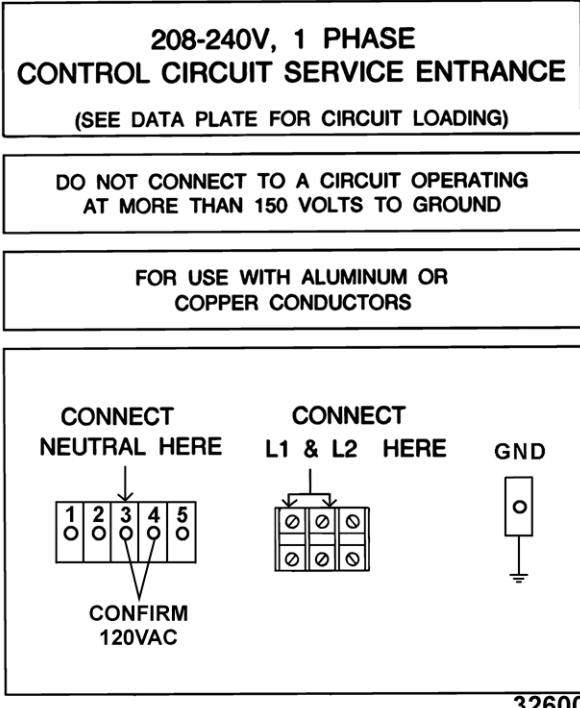
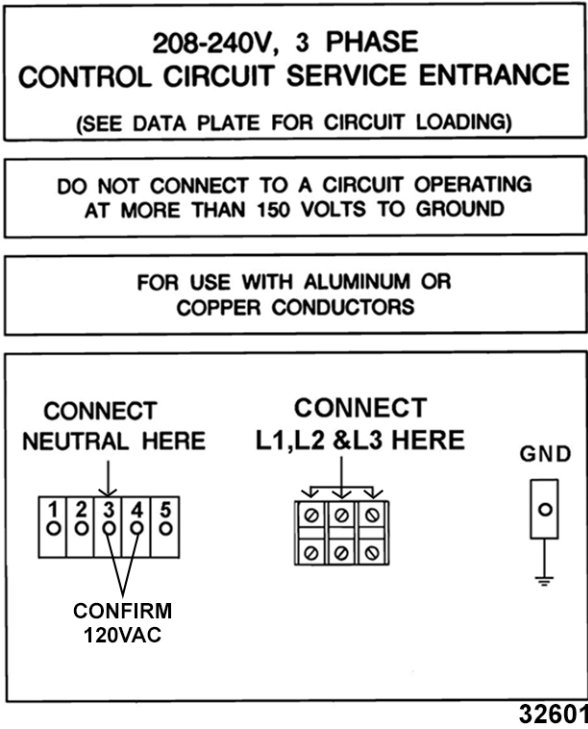

Fig. 80
Fig. 81
1. Connect electrical supply per the wiring diagram on the component box cover or back side of lower front trim, **ensuring the neutral wire is connected at terminal #3 on terminal strip (Fig. 80 , Fig. 81).**